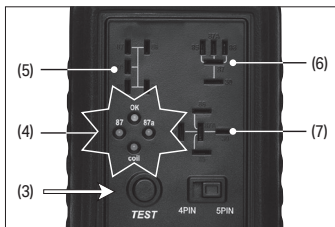

Fig. 3
4. Plug the relay to test into the relevant relay socket (5), (6), (7) and press and hold the 'TEST' button (3) to start the test. (Fig.3)
5. During testing the indicators (4) will keep flashing until the test is complete. Do not release the button until the indicators show the test result. (Fig.3)